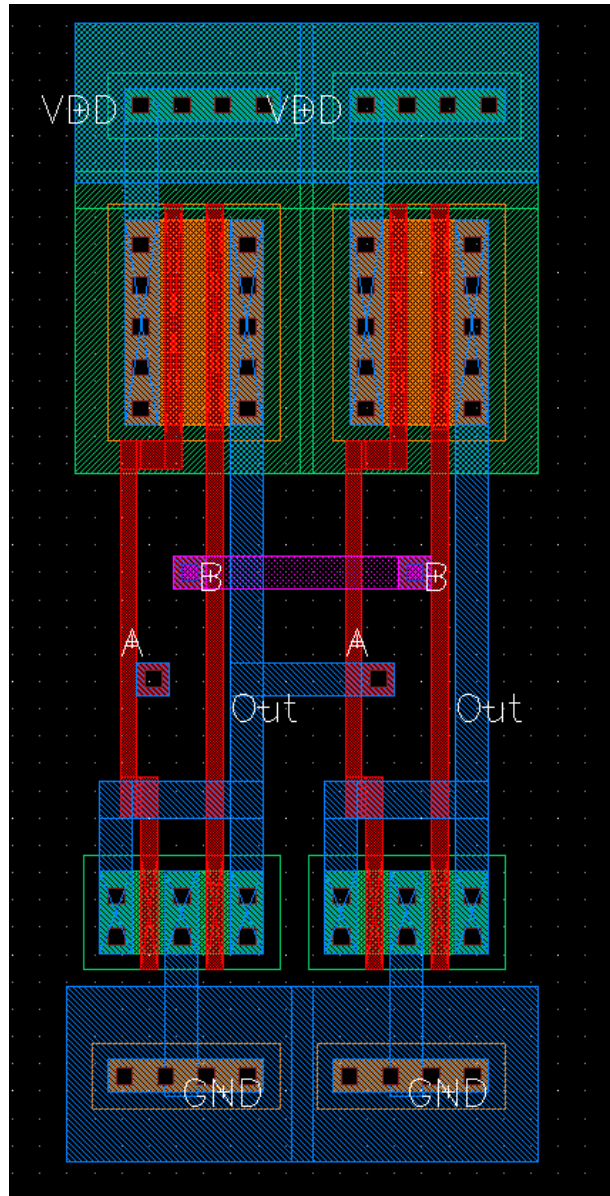

Figure 6. In the next lab you will need to make connections between your gates. It is wise to leave some area for this connection.
2. You need to leave enough space between the poly that connects the gates of transistors so that you are able to add via to this poly. You can use other layers of metal for connection. As an example, figure 6 shows a connection between two “NOR” gates. This connection can be possible with the help of via (poly-metal1) and (metal1-metal2).